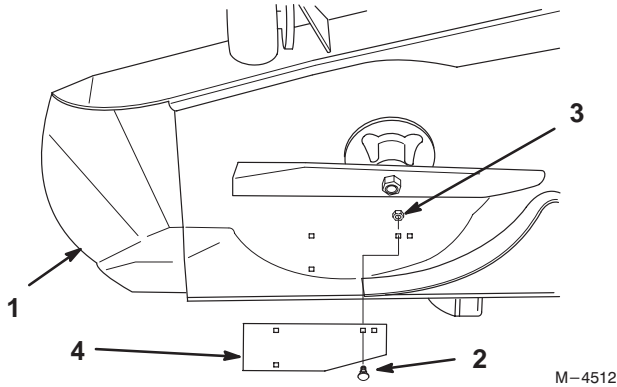

Figure 1
1. Remove existing righthand wear plate under deck. Save hardware that is removed (Fig. 1).